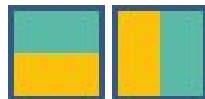
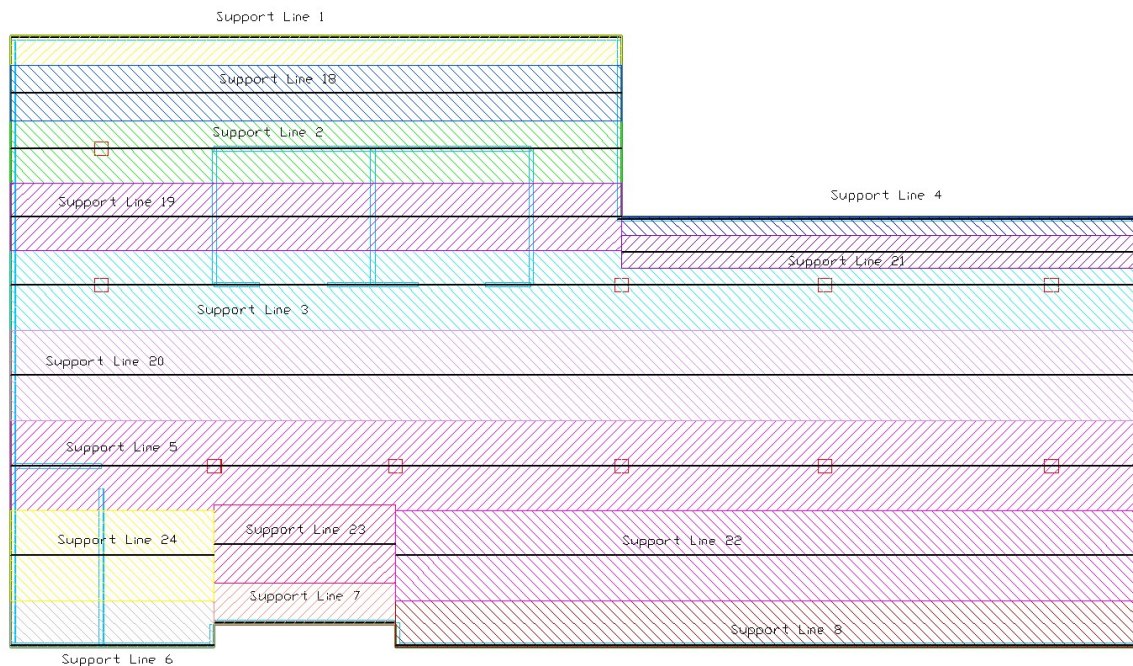

FIGURE 6.8-2 DESIGN STRIPS IN X- AND Y- DIRECTION
FIGURE 6.8-3 COLUMN AND MIDDLE STRIPS IN X-DIRECTION
- Use **Floor Design | Strip Results/Visibility | Display/Hide X- or Y-Tributaries** to view the generated column strips and middle strips in either direction as shown in **Figure 6.8-2**. Middle and column strips are shown hatched in **Figure 6.8-3** for this example.